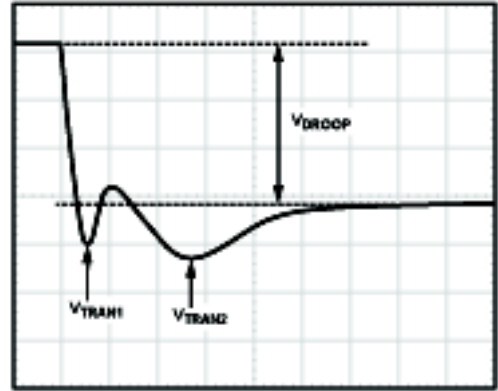

Figure 28. Transient Setting Waveform, Load Step
1. With the dynamic load set at its maximum step size, expand the scope time scale to 2 $\mu\text{s}/\text{div}$ to 5 $\mu\text{s}/\text{div}$. This results in a waveform that may have two overshoots and one minor undershoot before achieving the final desired value after V_{DROOP} (see Figure 28).